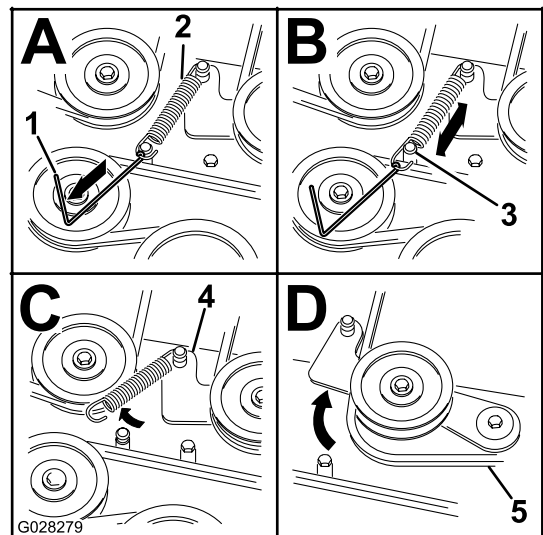

Figure 76
5. Remove the spring tension from the spring-loaded idler pulley; refer to Figure 76.
Note: Use the spring removal tool (Toro Part No. 92-5771) to remove the spring from the mower-deck post (Figure 76).